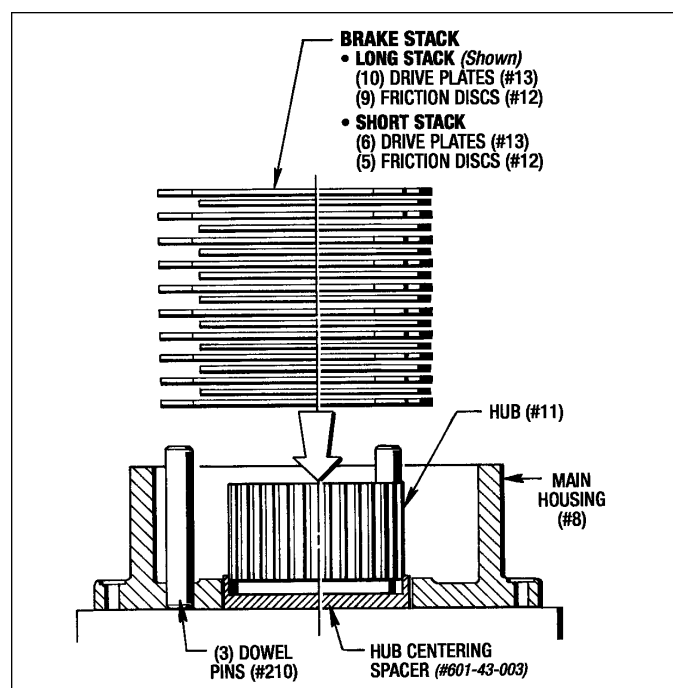

Figure 5.7 - Installing the Brake Stack
- Manually place the Hub (#11) into the Hub Centering Spacer. **This is very important so that all the spline teeth in the Friction Discs (#12) are aligned with each other and are centered when the whole assembly is clamped down.** (See Figure 5.7)